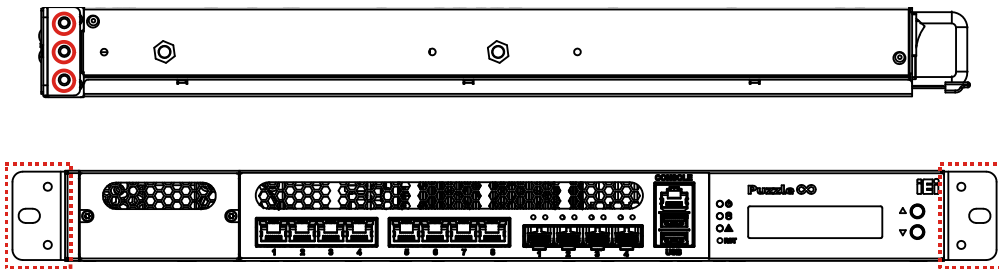

Figure 3-14: Rack Mount Bracket Installation
- Step 1:** Install the rack mount brackets to the sides of the PUZZLE-IN004 by inserting three retention screws (M4*6) into each bracket (**Figure 3-14**). Make sure the screws are tight and on the right positions.